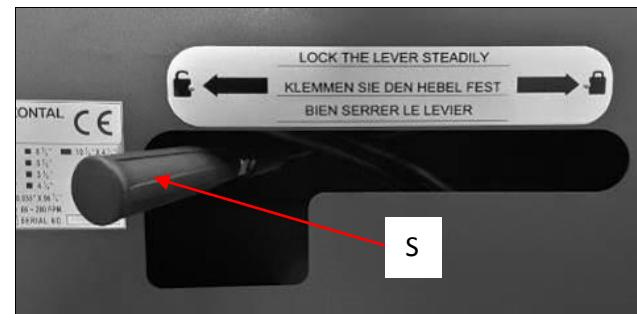

Figure 8-1: Mitre Cutting Adjustment
2. Press button (C) to start the hydraulic pump.
3. Use switch (M) to select manual mode
4. Use switch (J) to raise the saw bow.
6. Switch off Main power (A).
7. Un-clamp saw bow, by rotating the lock lever (S, Fig 8-1) to the left.